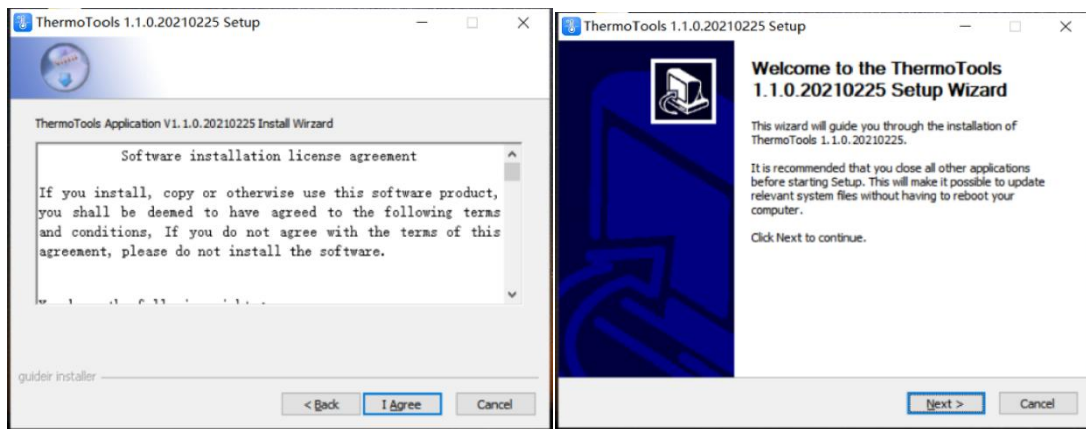

Figure 2-2 Installation Wizard
2. Select a language and click OK to enter the installation wizard interface, as shown in Figure 2-2. Clicking Cancel will end the installation.